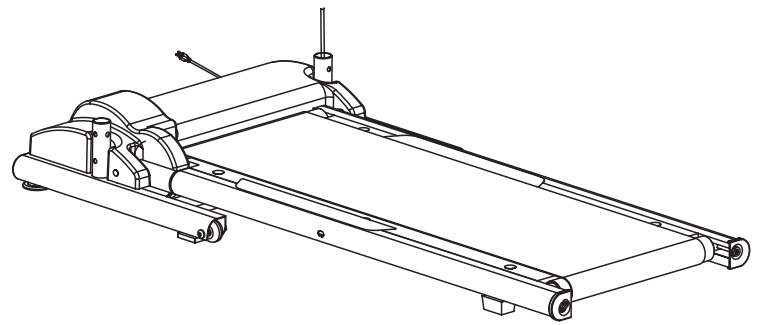

Figure 1: Deck in Down Position
1. With the treadmill deck in the down position, leave the unit on the original packing material to assemble all parts. Refer to Figure 1.